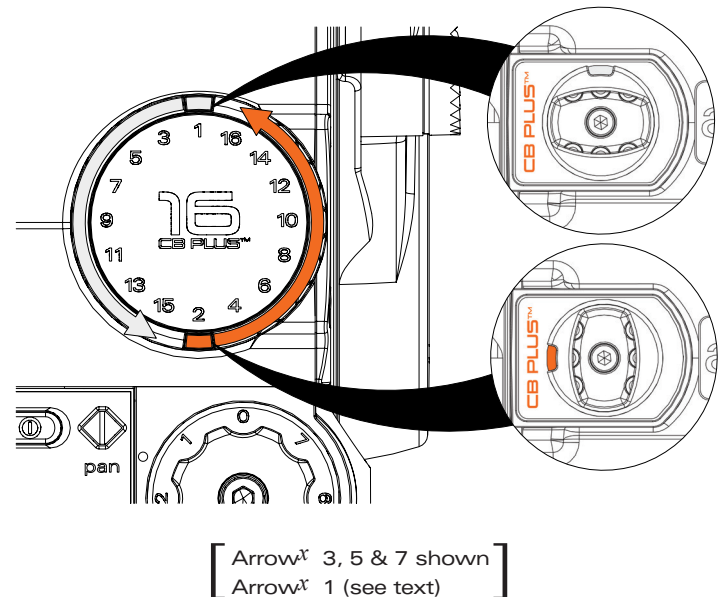

Fig. 4
- 3.1 For safety, select Counterbalance position 16 (Arrow^x 3, 5 & 7) or position 15 (Arrow^x 1) being the Orange coloured marker on the Counterbalance Selector Knob (Fig. 4).